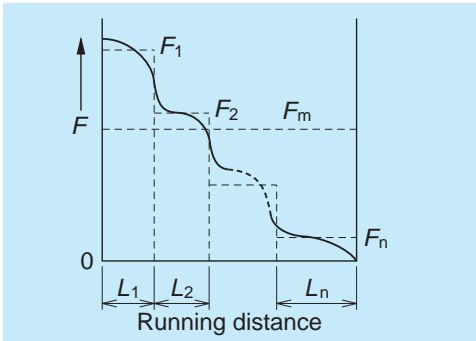

Fig. 2.3 Stepwise load change
① When load and running distance vary stepwise (Fig. 2.3)